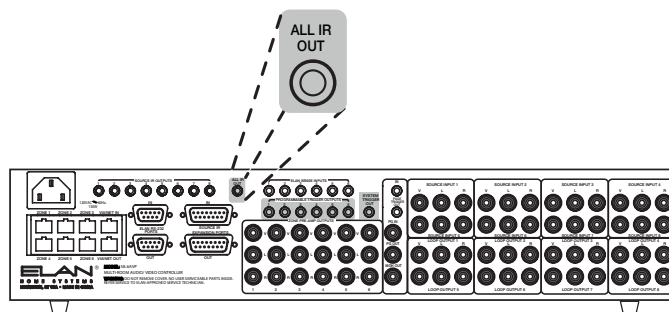

Figure 1-20. ALL IR Out
The PROGRAMMABLE TRIGGER OUTPUTS(12) connect to devices that require a trigger signal when a specific zone is turned on. These outputs can also be programmed to perform independently of zone status or activity (see **Figure 1-20**).
The ALL IR OUT jack (13) connects IR to system sources that do not require source specific IR Outputs (see **Figure 1-20**).